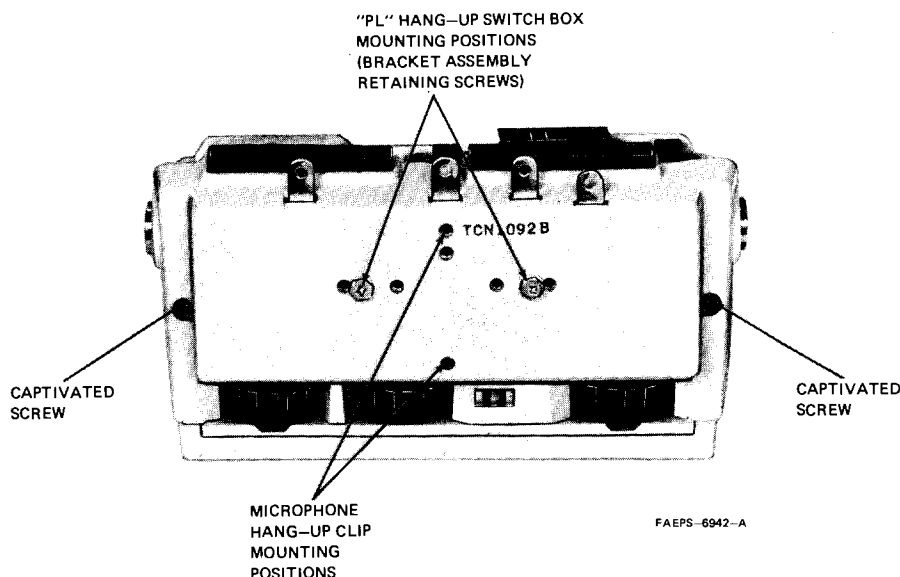

Figure 4.
Refer to Figure 4. The two captivated "Phillips" head screws hold the upper and lower halves of the housing together. Four optical prisms are factory mounted and aligned into the top cover of the housing. These prisms require no service and must not be tampered with for any reason.
(1) Loosen the two captive screws and remove the upper half of the housing (refer to Figure 4).